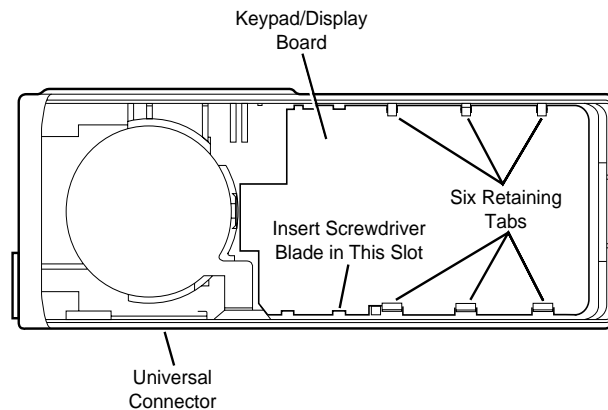

Figure 12 Removing the Keypad/Display Board
6. On front display model radios only, notice that the keypad/display board is secured to the front cover housing using six tabs, three small tabs on one side and three larger tabs on the universal connector side. Remove the keypad/display board by inserting a small flat-blade screwdriver in the circuit board slot provided (slot nearest the top retaining tab on the universal connector side of the radio, see Figure 12). A slight prying action will release the keypad/display board. If applicable, remove the rubber keypad.